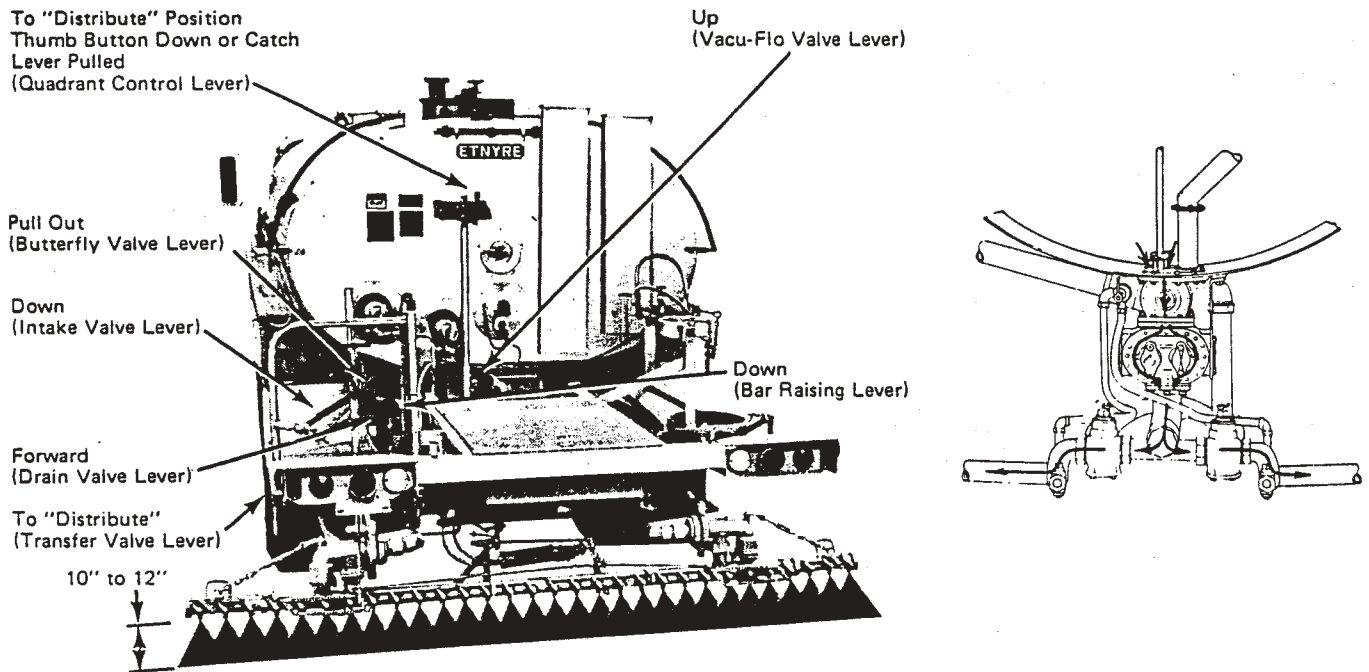

Figure 21. Valve Settings for Spraying Operations
1. Set operating valves and levers as shown in Figure 21.